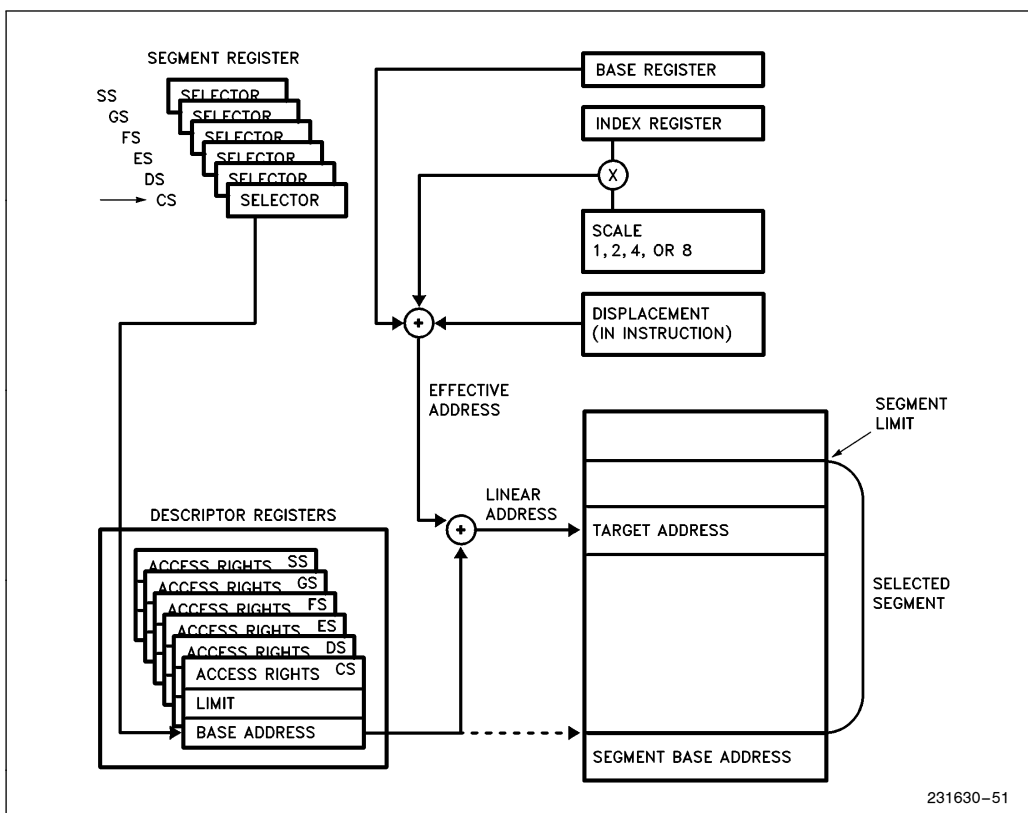

Figure 2-9. Addressing Mode Calculations
As shown in Figure 2-9, the effective address (EA) of an operand is calculated according to the following formula.